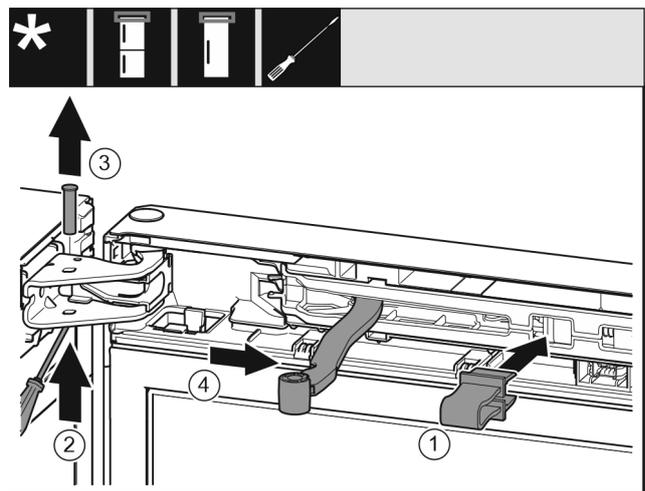

Fig. 13
- ▶ Latch safeguard Fig. 13 (1) into opening.
- ▶ Slide out the bolt Fig. 13 (2).
- ▶ Remove the bolt Fig. 13 (3) upwards.
- ▶ Turn the joint Fig. 13 (4) towards the door.